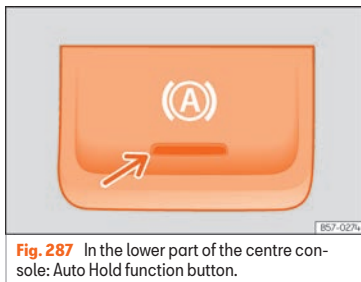

Fig. 287 In the lower part of the centre console: Auto Hold function button.
The control lamp on button (A) »» Fig. 287 remains on while the Auto Hold function is connected.
If the vehicle is stationary and one of the conditions required by the Auto Hold function is impaired, it disconnects itself and the button's control light goes out »» Fig. 287. The electronic parking brake connects automatically, if necessary, to park the vehicle safely »» ⚠.